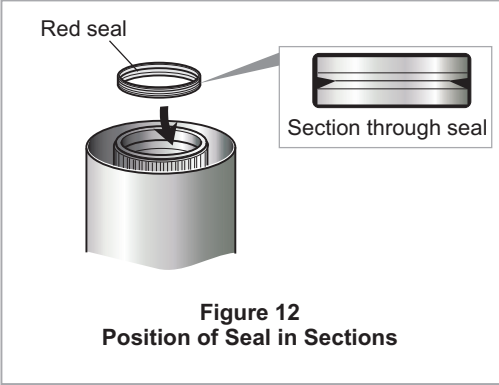

Figure 12
Take the starter section (B) of vertical flue pipe and check the seal is fitted as shown (see figure 12).